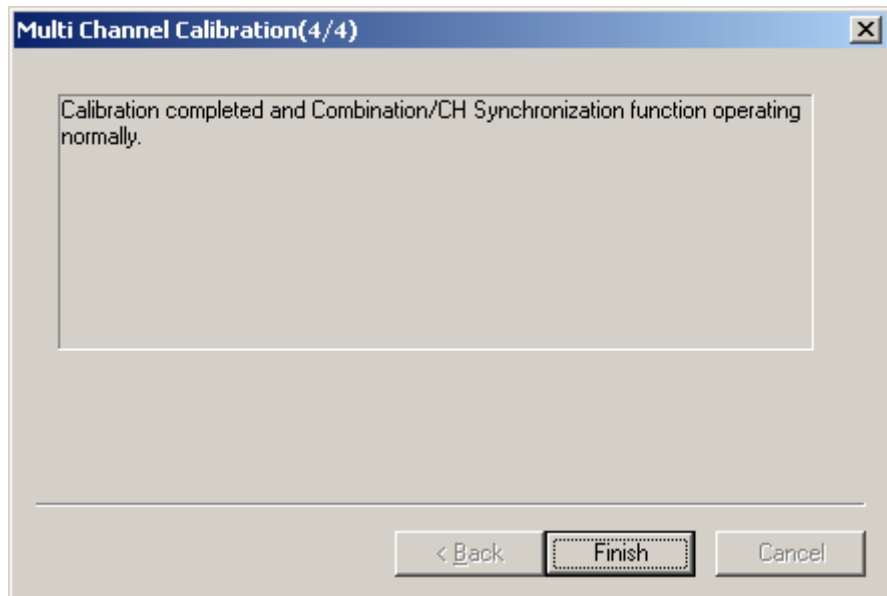

Figure 5.8-6 Multi Channel Calibration Screen 4
When the screen shown in Figure 5.8-6 appears, click [Finish] to complete the calibration.
3. When the **Multi Channel Calibration** dialog box appears as shown in Figure 5.8-1, perform the calibration according to the description of Figure 5.8-1 through Figure 5.8-6.
4. When the **Multi Channel Calibration** dialog box appears as shown in Figure 5.8-1, perform the calibration according to the description of Figure 5.8-1 through Figure 5.8-6.